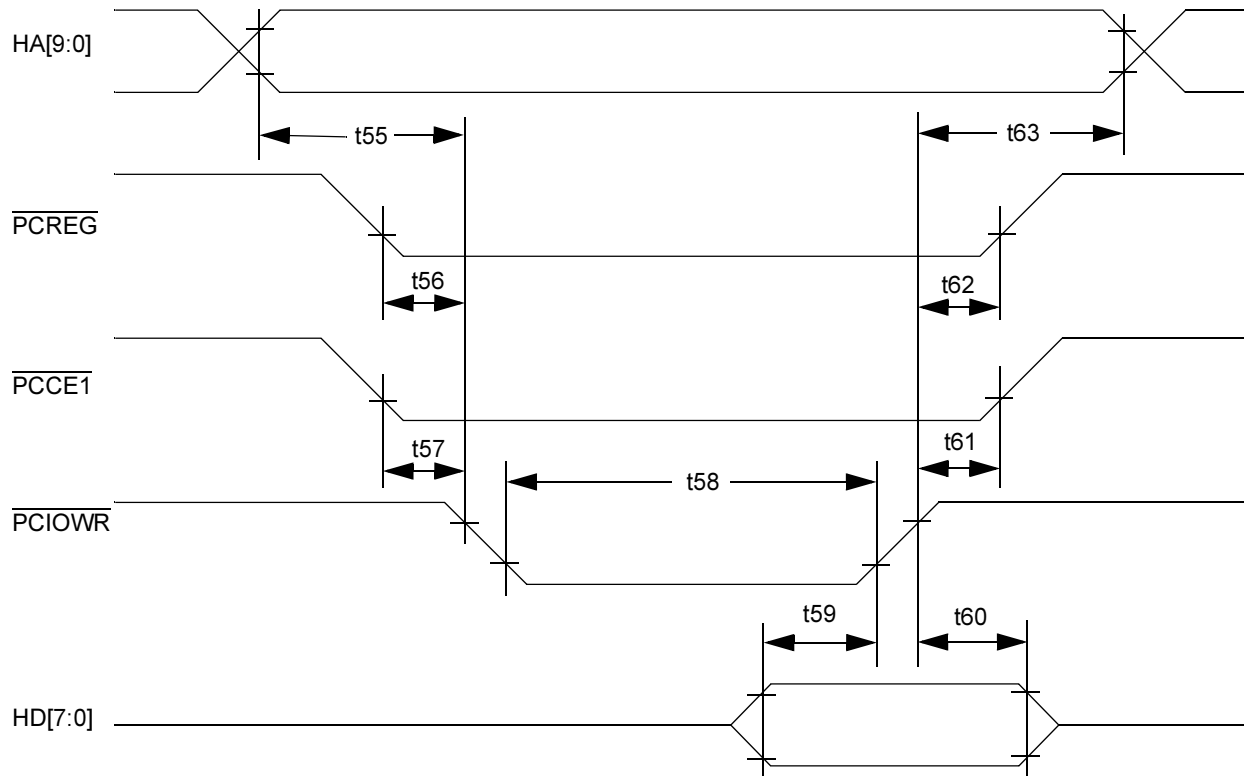

Figure 8. Host - PCMCIA I/O Write Timing Diagram
**Host-PCMCIA I/O Write Timing (See Figure 8)**